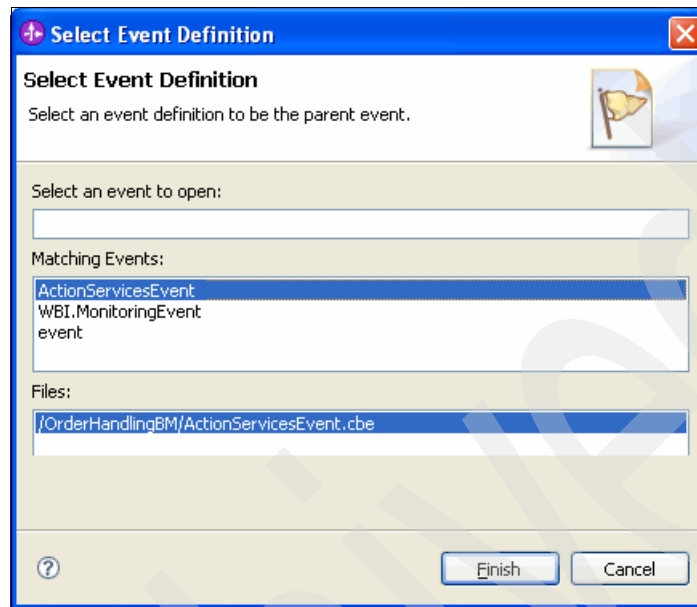

Figure 8-87 Selecting ActionServicesEvent as the parent event
35. In the Select Event Definition window (Figure 8-87), under Matching Events, ensure that **ActionServicesEvent** is selected and then click **Finish**.